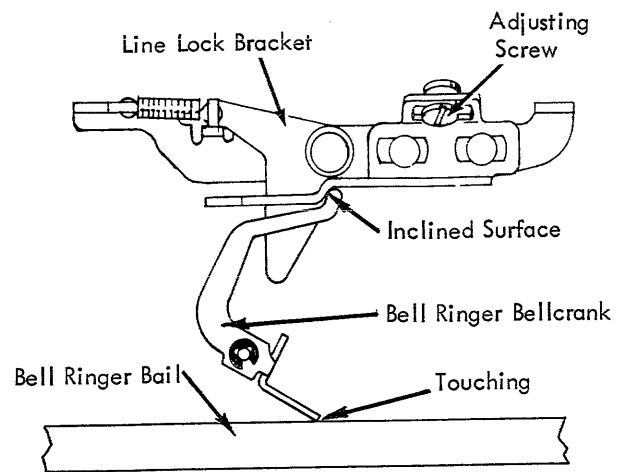

FIGURE 183. Line Lock Bracket
8. Line Lock Bracket Adjustable Plate (Fig. 183) - Position, with the carrier in the next to last space, to a point where the inclined surface just begins to deflect the bell ringer bellcrank.